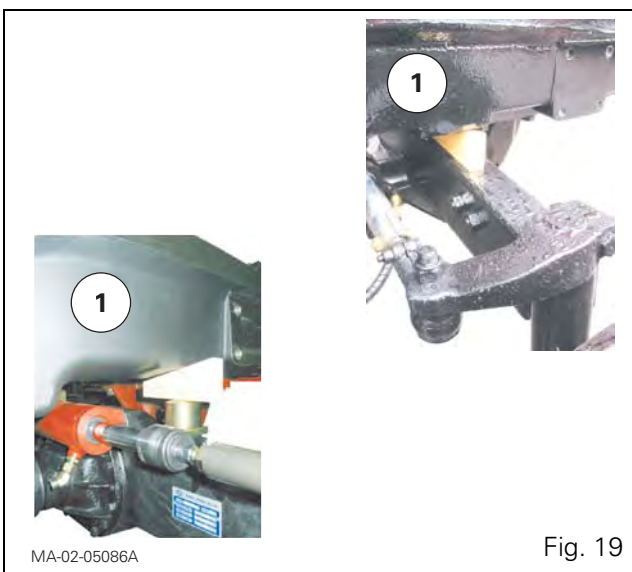

Fig. 19
- by inserting a suitable block on either side of the frame (1) as shown in Fig. 19.